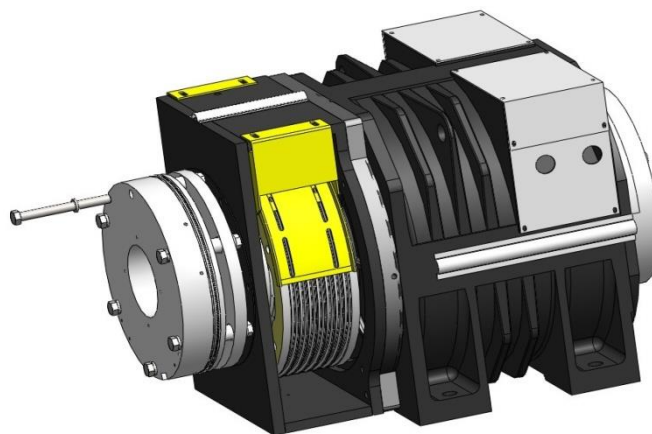

Figure 40: Final Bolt installation
9. Remove the threaded rod M16x320; tighten remaining bolt M16x165 and lock washer 16. See Figure 40.